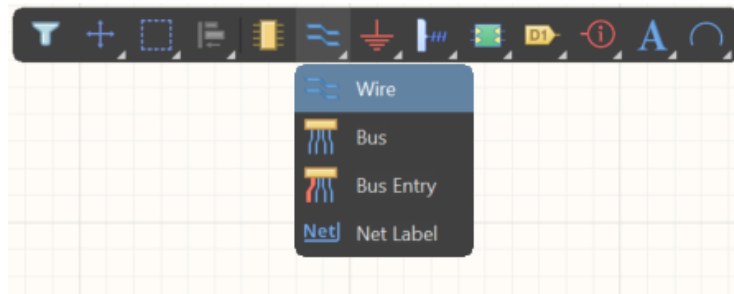

Figure 9. Place Wire from ActiveBar
- a) Go to **Place » Wire** (shortcut **P » W**). This can also be done from the *ActiveBar* as shown *Figure 9*.